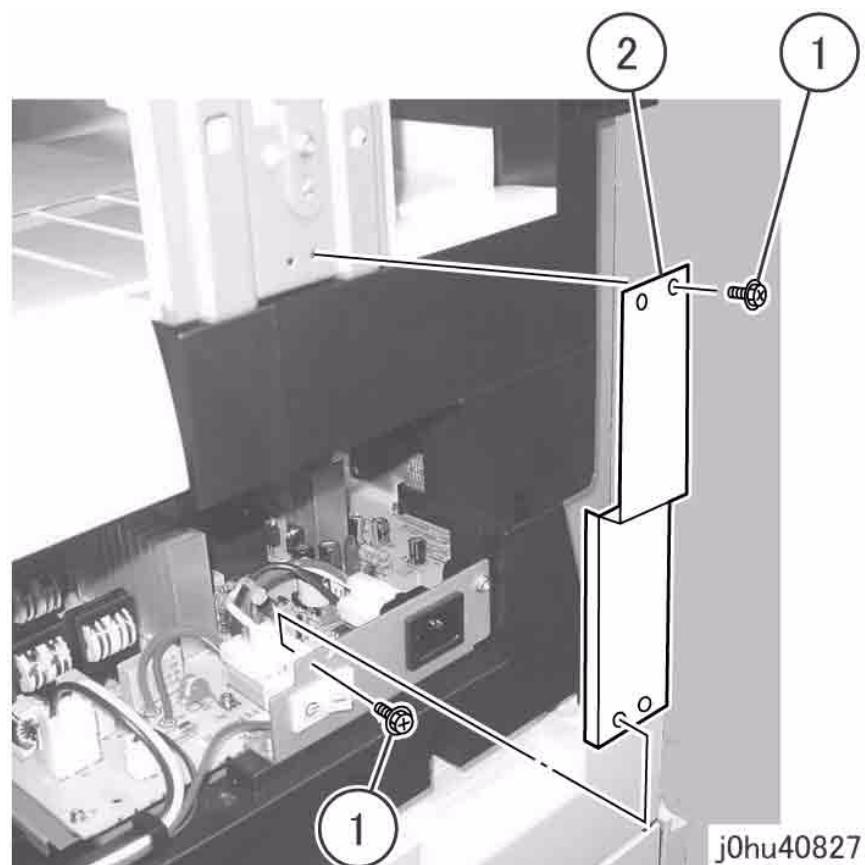

Figure 2 Remove the IIT Ground Plate
5. Remove the IIT Ground Plate (Figure 2).